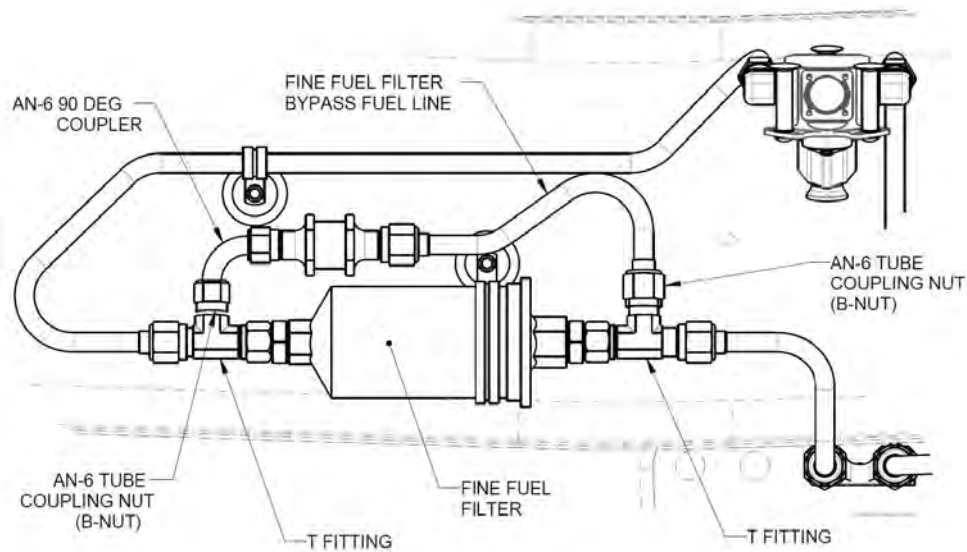

FIGURE 10-29
4. Loosen the AN-6 B-nut at the top of both T Fittings. (See Figure 10-29.) Catch the fuel as it leaks from the joint.
4. Install the Upper Fuel Check Valve Subassembly into the aircraft. (See Figure 10-29.)